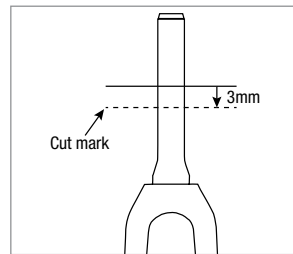

Figure 7
10. Locate the mark made in step 8. Measure down 3mm and make a new mark for cutting (Fig. 7). Erase the first mark.